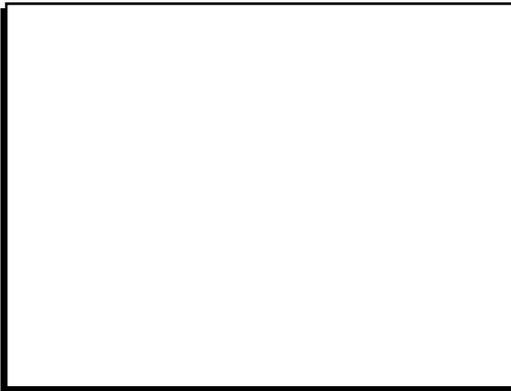

Figure 9 Trigger Installed on an Electronic Ignition Engine.
The trigger plate is designed to mount on the mounting bosses located on the engine case behind the flywheel. Both the "Points and Electronic" engines have these mounting bosses (see figures 9 and 10).
3. Install the trigger pickup to the trigger plate. Note: The position differs on Electronic ignition and Points ignitions (Figure 9 and 10). See the procedures below to assemble and position the trigger plate.
1. Must be installed with mounting lip facing toward engine case (Figure 9).